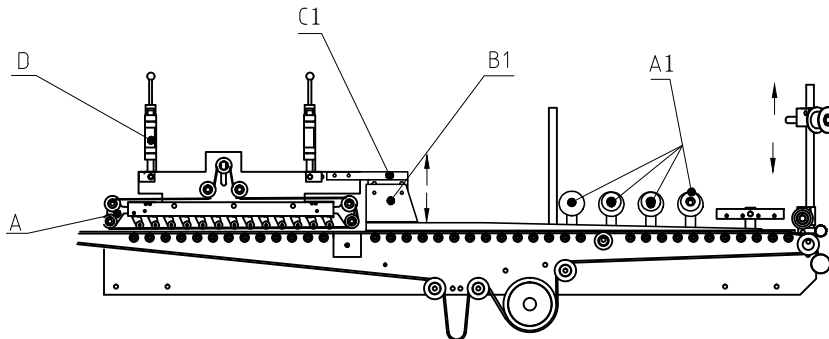

Fig 3-1
- ① The adjustment of base and upward clamping subassembly is the same with the pre-folding unit. Forming knife subassembly, reverse folding subassembly and other auxiliary subassemblies are retained by clamping screw. Loosen all the clamping screws to adjust the desired position of each part, refer to Fig 3-1.